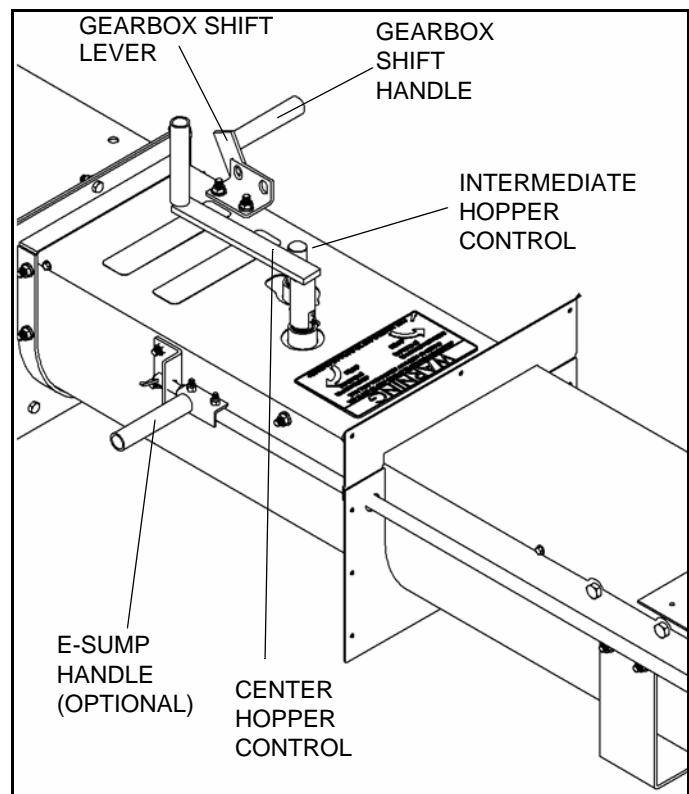

Figure 5.1
2. Disengage sweep gearbox (push gearbox shift handle towards bin wall to disengage sweep). Refer to Figure 5.1.